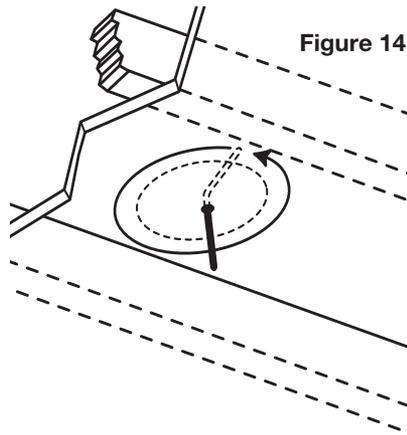

Figure 14
3. Cut a foot-long piece of coat hanger. Bend the wire (creating a right angle) leaving 4-1/8" at one end for the CM5AT, 4-3/4" for the CM6AT and 5-3/8" for the CM8AT (this allows for the extra width of the mounting dogs). Poke the "L-shaped" wire into the pilot hole and turn it in a complete circle and move it into the ceiling cavity to make sure you have approximately 3-3/4" of depth. If the wires movement is obstructed by anything, fill the hole(s) with spackle and try another location. (See Figure 14)